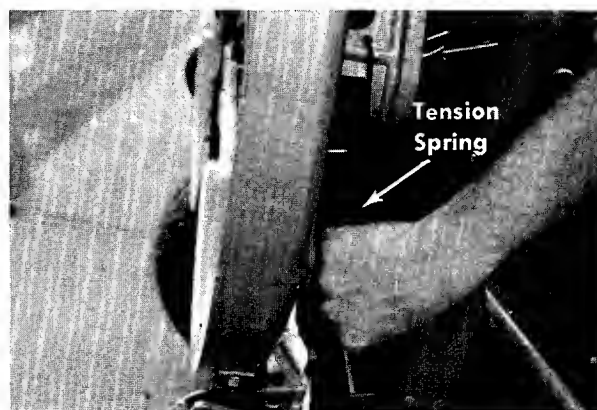

FIGURE 26. REMOVING TENSION SPRINGS
- Step 5. Unhook the tension springs on both sides of the deck. See figure 26.
Step 5. Unhook the tension springs on both sides of the deck. See figure 26.
a. Remove the entire belt guard from the engine pulley by removing the two front engine bolts. See figure 26.